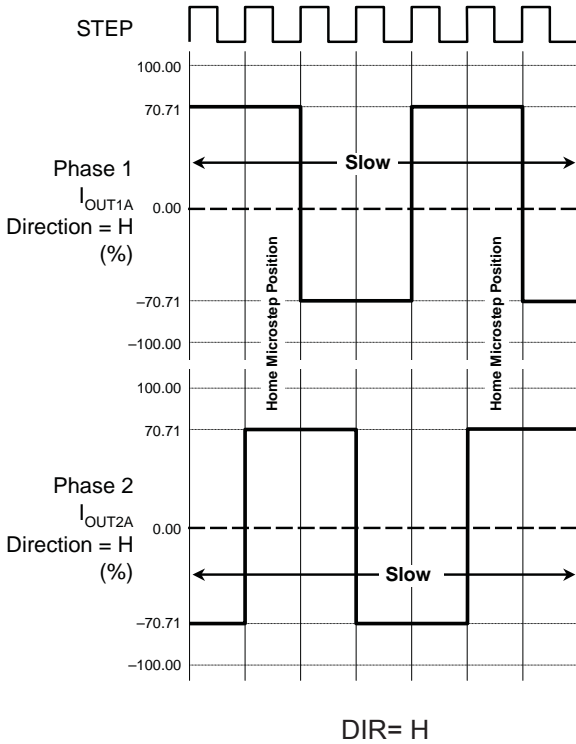

Figure 8. Decay Mode for Full-Step Increments
At power-on or reset, the translator sets the DACs and the phase current polarity to the initial Home state (shown in figures 8 through 11), and the current regulator to Mixed Decay Mode for both phases. When a step command signal occurs on the STEP input, the translator automatically sequences the DACs to the next level and current polarity. (See table 2 for the current-level sequence.) The microstep resolution is set by the combined effect of the MS1 and MS2 inputs, as shown in table 1.
**Mixed Decay Operation.** The bridge operates in Mixed decay mode, at power-on and reset, and during normal running according to the ROSC configuration and the step sequence, as shown in figures 8 through 11. During Mixed decay, when the trip point is reached, the A4982 initially goes into a fast decay mode for 31.25% of the off-time,  $t_{OFF}$ . After that, it switches to Slow
**Reset Input (RESET).** The  $\overline{RESET}$  input sets the translator to a predefined Home state (shown in figures 8 through 11), and turns off all of the FET outputs. All STEP inputs are ignored until the  $\overline{RESET}$  input is set to high.
**Mixed Decay Operation.** The bridge operates in Mixed Decay mode, depending on the step sequence, as shown in figures 8 through 11. As the trip point is reached, the A4985 initially goes into a fast decay mode for 31.25% of the off-time.  $t_{\text{OFF}}$ . After that, it switches to Slow Decay mode for the remainder of  $t_{\text{OFF}}$ . A timing diagram for this feature appears on the next page.